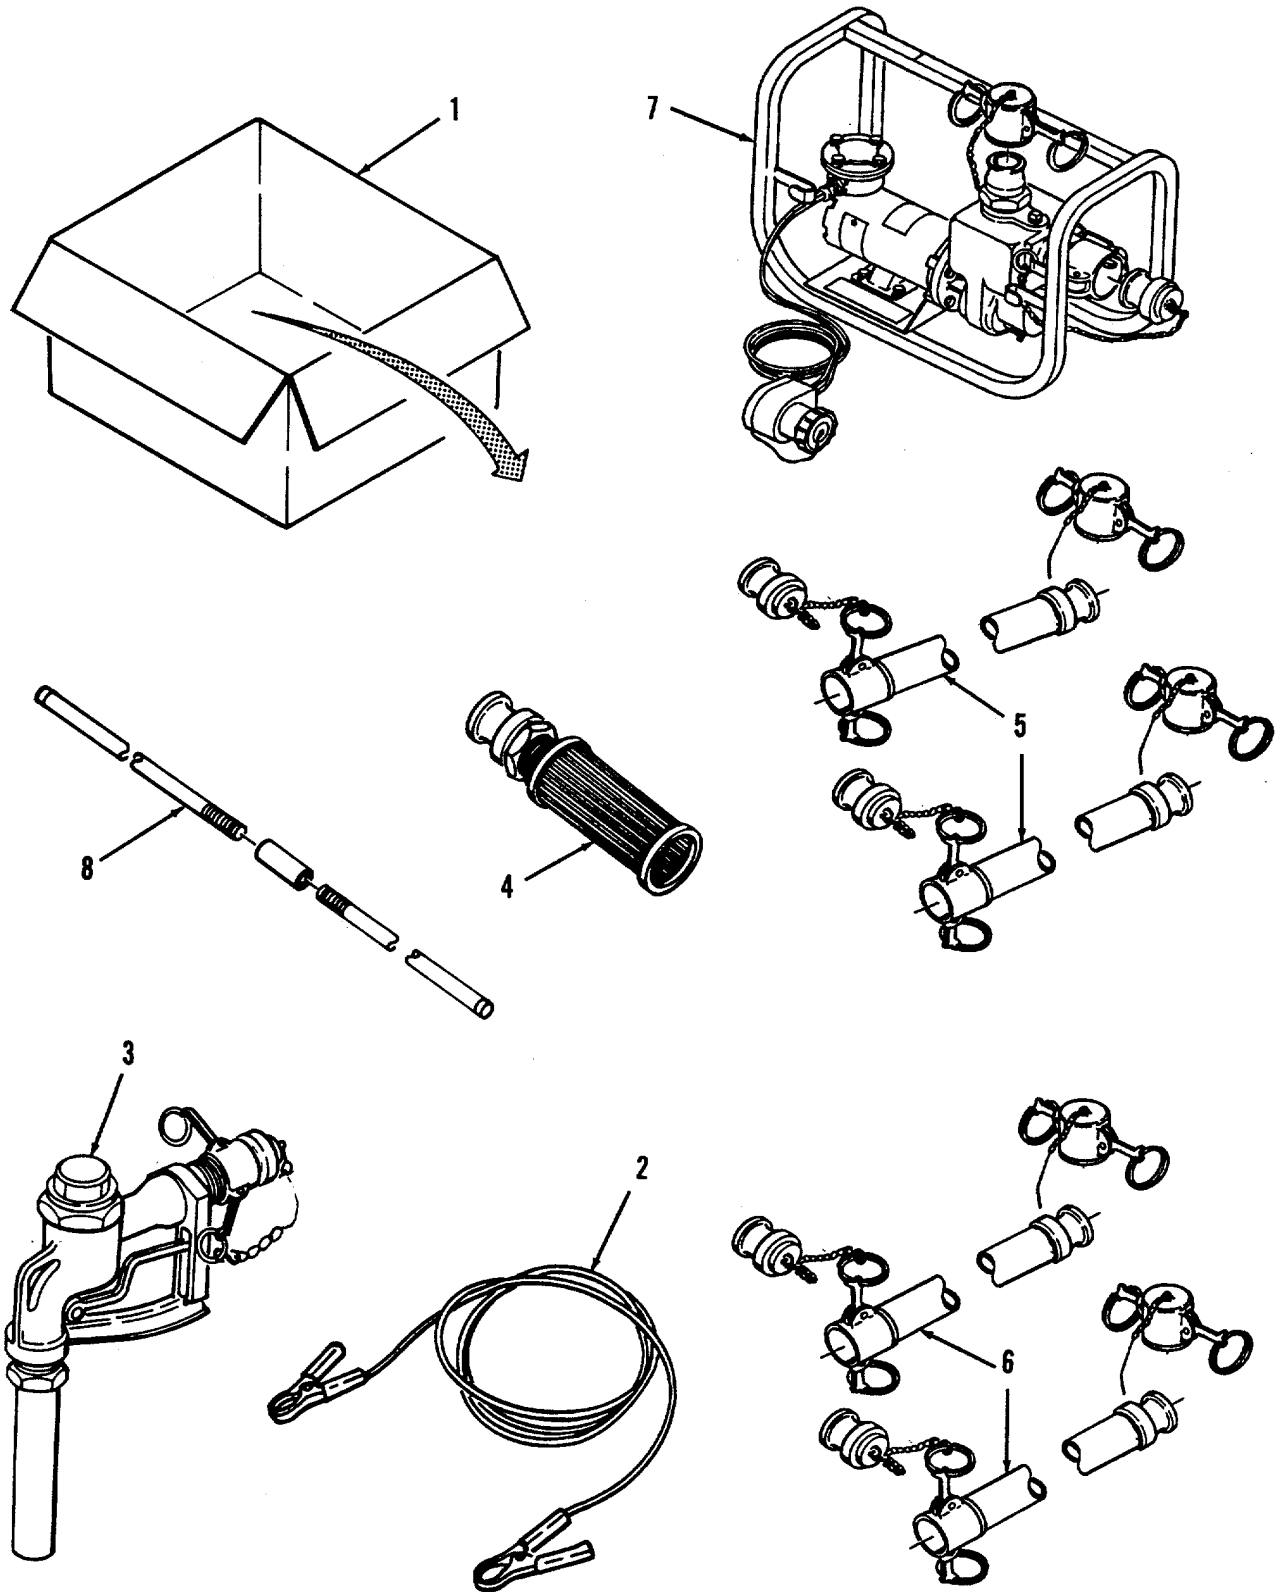

Figure 4-1. Unpacking Pump Assembly.
- (2) Use a forklift truck or other suitable material handling equipment to remove the unit from the carrier.
- b. Unpacking. (Refer to Figure 4-1).